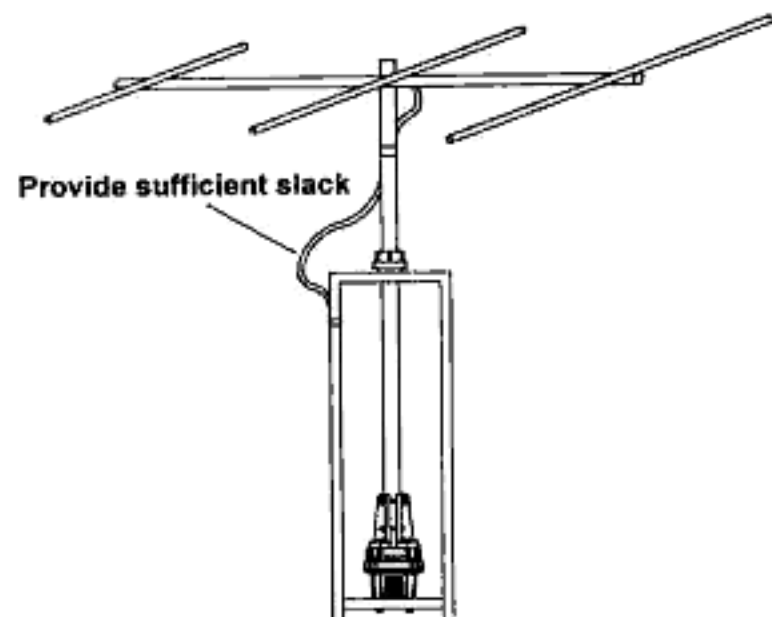

Figure 8
11. Provide sufficient slack in the coaxial cable such that the antenna can rotate over its full 450° range without putting any tension on the coax (see Figure 8). Secure the coax to the tower, using electrical tape and/or UV-resistant cable ties.